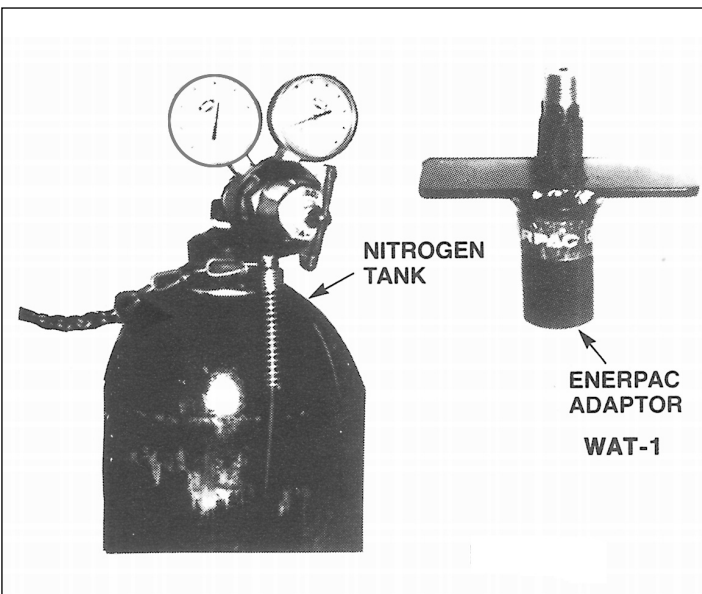

Figure 2
2. Enerpac adaptor WAT-1. See Figure 2.